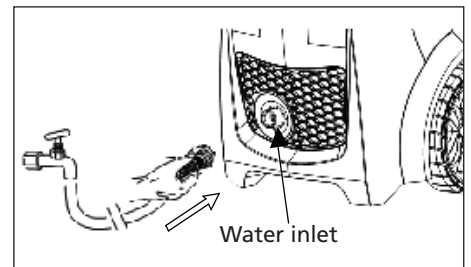

Figure 14 - Attach garden hose to unit (model PW1835 only)
7. Attach garden hose to unit (see Figures 14 and 15).